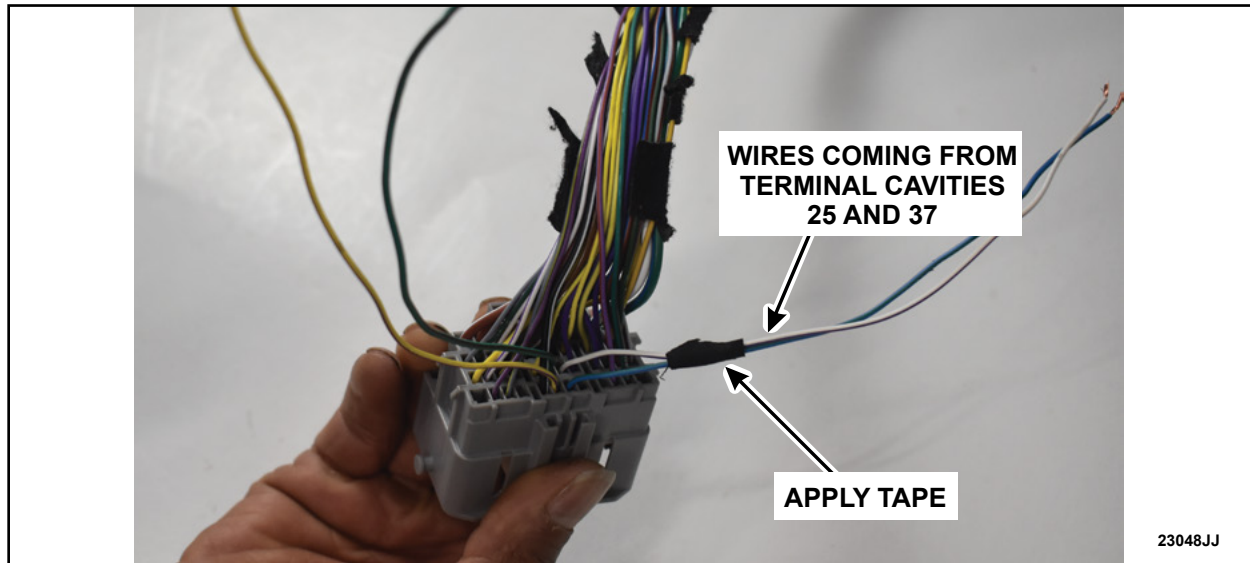
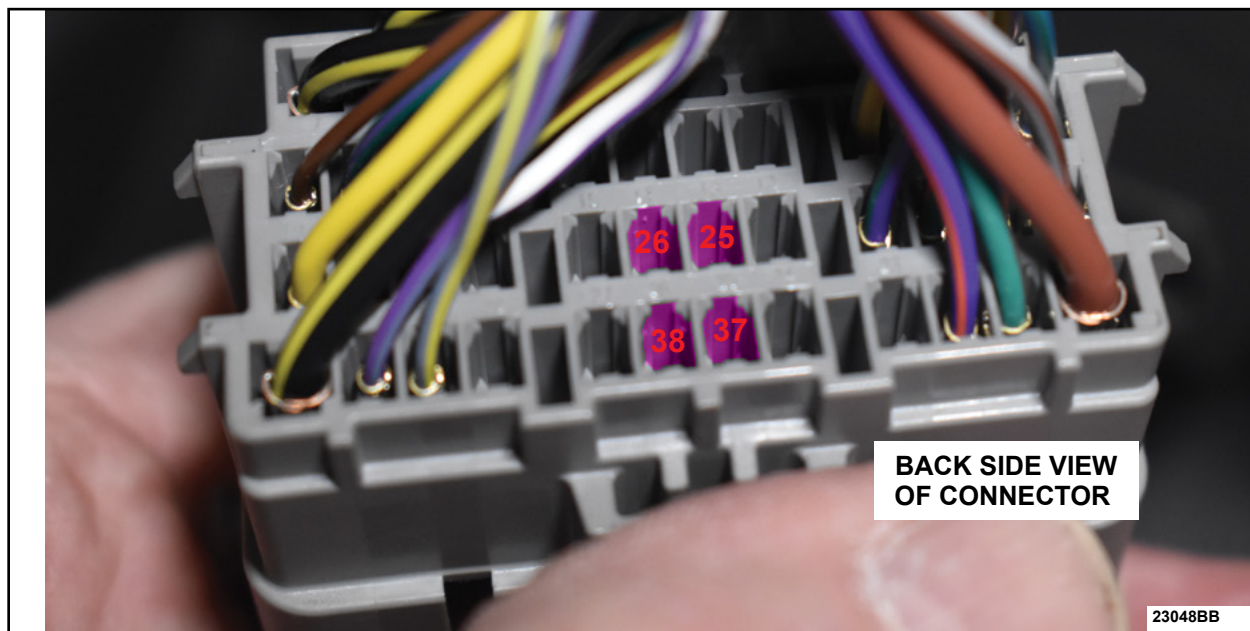

FIGURE 11
FIGURE 12
12. Measure 2 in (50 mm) from the connector up the wires located in cavities 25 and 37 and apply electrical tape. See Figure 11. See Figure 12 for terminal cavity locations.
14. Repeat Steps 12 and 13 to the other two wires from cavities 26 and 38. See Figures 12 and 14.